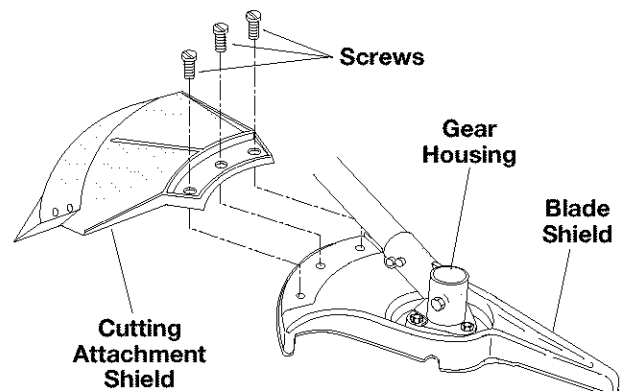

Fig. 4
Install the cutting attachment shield with the three (3) (1/4-20 x 0.50) screws (Fig. 4) onto the blade shield with an appropriate screwdriver. Tighten the screws.
Remove the cutting attachment shield from the shield mount by removing the three (3) screws with an appropriate screwdriver (Fig. 4). Store parts for future use.